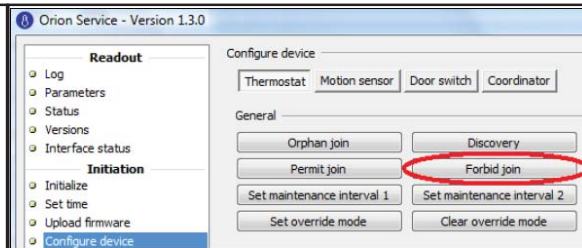

Figure 66
10. Choose the **Thermostat** tab of the **Configure device** section in *Orion Service*. Click the **Forbid Join** button; see *Figure 66*. Failure to perform this step will result in problems when setting up the network in nearby rooms.